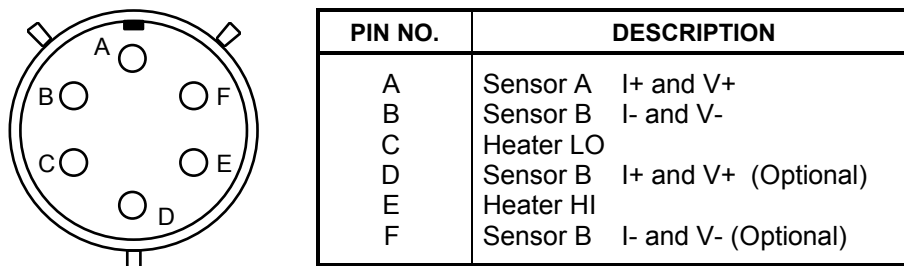

Figure 1-5 10-Pin Instrumentation Feedthrough Connector
**INSTRUMENTATION FEEDTHROUGH CONNECTOR:** The 6-pin Instrumentation Feedthrough Connector is located on the main body of the cryostat. Temperature control and measurement electrical connections are made through the o-ring sealed electrical feedthrough. Only 4 of the 6 pins are used in a standard Model MTD-120 Installation. This allows for future installation of additional instrumentation leads. See Figure 1-5 for connector definition.
11. To connect Customer instrumentation to the DUT signal lines, connect appropriate cables to four 34-pin feedthrough connectors on vacuum chamber base plate. Connectors are labeled A, B, C, and D. A typical 340-pin connector is illustrated in Figure 1-5. The MTD-120 is now ready to perform tests.
- Although the instrumentation connectors have 34 pins, there are only 17 signal lines per connector. Twenty-five signal lines times four connectors equals the one hundred connections on the fanout board. When viewing the instrumentation connector as shown in Figure 1-5, the inner row of 17 pins for signals from the DUT. The outer row of 17 pins has connections for the shields. The shield pin corresponds to the signal pin directly adjacent to it.